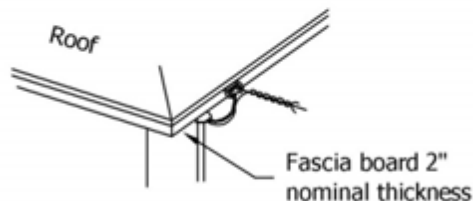

FIGURE 4
3. Where the building wall facing and nearest the Utility's pole line is on a shed or similar building projection, which wall does not afford sufficient service drop clearance without the installation of a service drop support riser or structure, and there is another wall of adequate height facing the Utility's pole line, the point of service drop attachment may be located on such wall, provided applicable clearances can be obtained. (See page SG 103.5, Figure 3.) This option does not apply to a building of normal height or construction having a higher section set back from the wall facing and nearest the Utility's pole line, such as a hip roof. When service drop clearances cannot be met, a service drop support riser or structure shall be provided on the wall facing and nearest the Utility's pole line to obtain required clearances. (See page SG 103.5, Figure 4.)